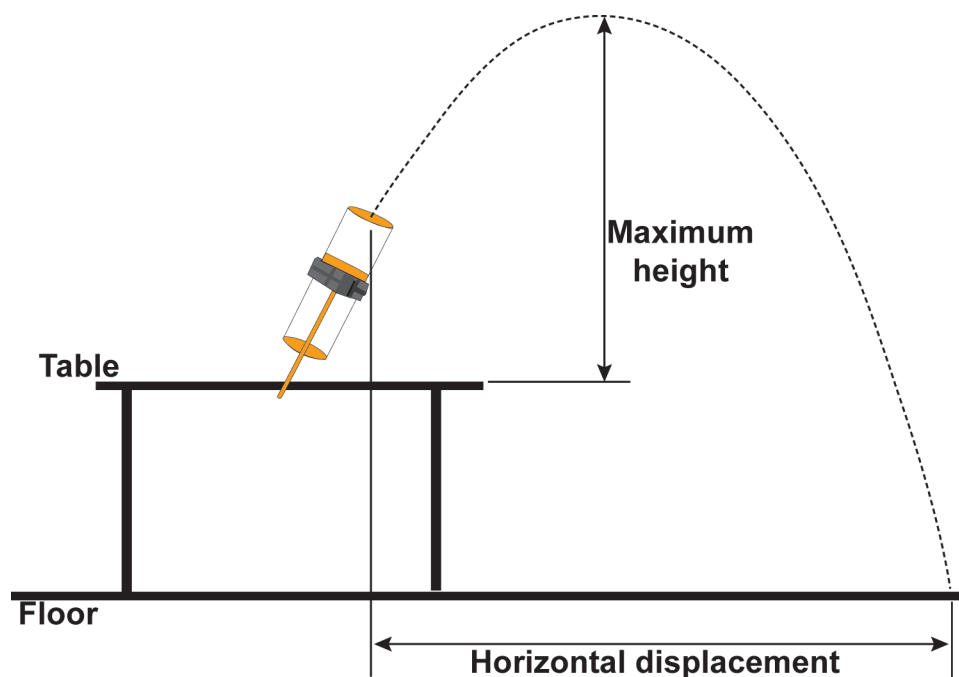

Figure 14
- C. One student to observe the spot where the ball lands and to mark that spot on the floor. The horizontal displacement is measured as shown in Figure 14.